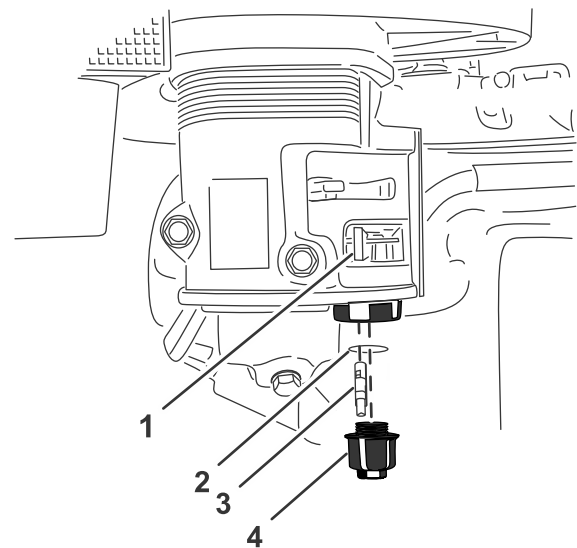

Figure 41
2. Move the fuel-shutoff valve to the CLOSED position (Figure 41).
3. Unscrew the sediment cup (Figure 41).
4. Remove the fuel filter and O-ring (Figure 41).
7. Install the fuel filter in the bottom of the carburetor (Figure 41).